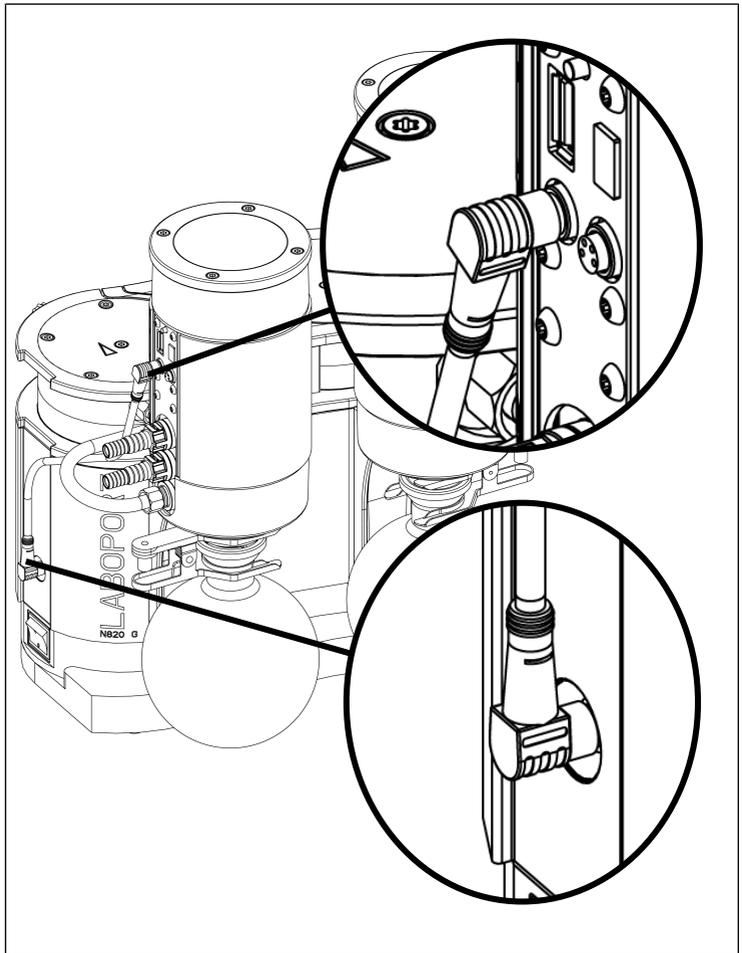

Fig.7: Connecting the signal cable
1. Connect the signal cable to the pump (see Fig. 3/7) and the separator (Fig. 23/3) (see Fig. 7).
- i** Ensure that the signal cable is correctly aligned with the separator (30° angle; see Fig. 7).